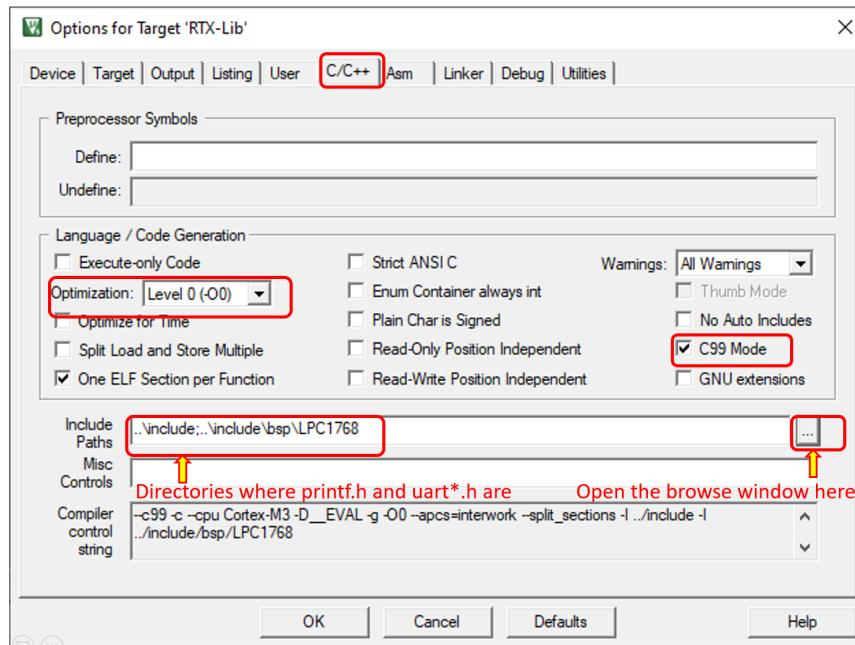

Figure 8.42: Keil IDE: Target Options C/C++ Tab Configuration
4. Configure the C/C++ tab as shown in Figure 8.42. In addition to the configuration you did for HellWorld application, you also need to specify the include path so the compiler knows where to find the header files. Note we moved
We need to specify the include path in the C/C++ tab of the target option since now all header files are in a separate folder (see Figure 8.42). And we need to do this update for both the SIM and RAM targets. We are now ready to build the application, just press the build button as usual (see Figure 8.16). You will see the application is built and a `.axf` file is generated (see Figure 8.46). You may either use the debugger to run it inside a simulator or on the board as usual.